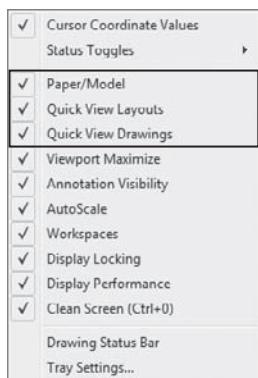

FIGURE 14.15 Turn on the Paper/Model and Quick View options in the context menu.
3. Before creating a new layout, you should set the AutoCAD interface to display the layouts easily. Right-click an empty area on the status bar and ensure that Paper/Model, Quick View Layouts, and Quick View Drawings each have a check mark next to them, as shown in Figure 14.15.